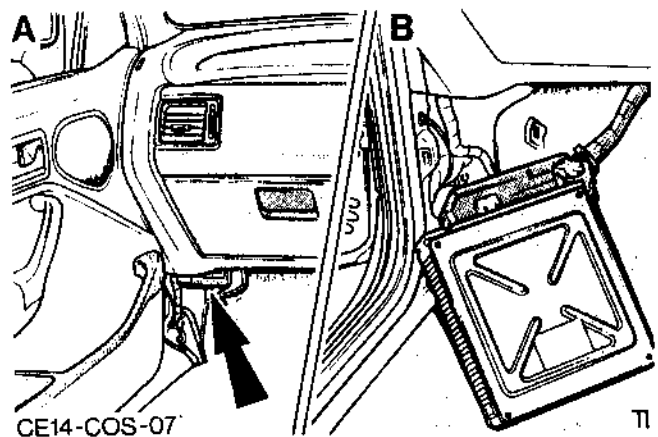

Fig.1. ECU Module positioned in vehicle.
6. Refit passenger side foot well kick panel trim over ECU module and secure, refer to Fig.1.